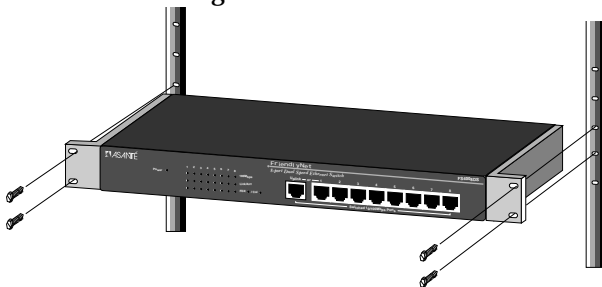

Figure 2-7 Mounting the FS4008DS in an equipment rack
- 2 Mount the FS4008DS in the equipment rack by screwing the mounting brackets to the equipment rack. See Figure 2-7.